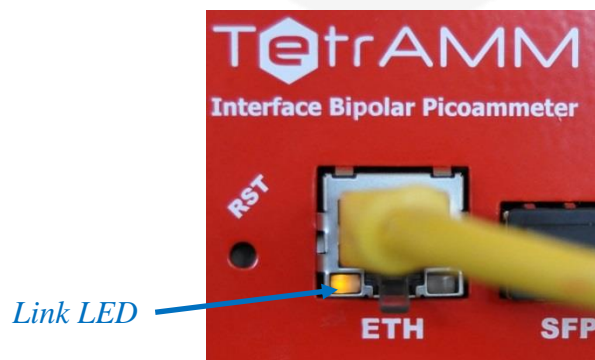

Figure 4: Ethernet Link
- verify that the “*Link LED*” on the RJ45 connector is turned on (**amber** for a 1 Gbps connection as shown in **Figure 4** or **green** for a 100 Mbps connection). The LED is turned off if the Ethernet cable is not connected or if the speed of connection is limited to 10 Mbps (in this last case the device is working correctly even if it is not recommended to use a slow connection since the data transfer rate is limited);